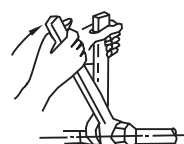

Fig.9-4
- Put the connecting tubing at the proper position, wrench the nuts with hands then fasten it with a wrench. (Refer to Fig.9-4)
- Expel the air with a vacuum pump (Refer to Fig.9-4) (Please refer to its manual for the way of using manifold valve)